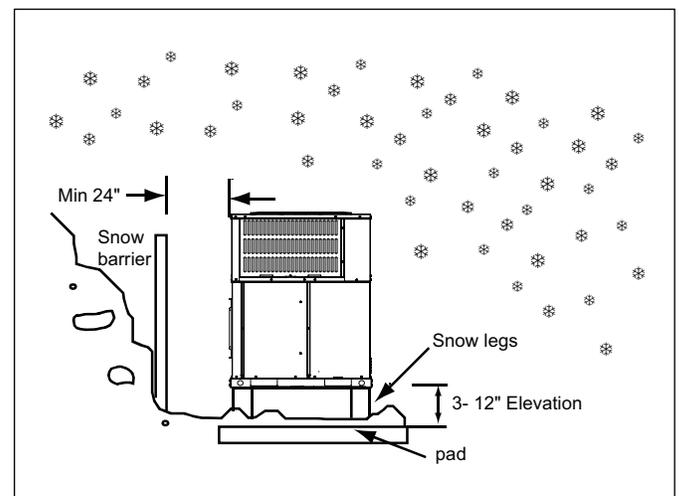

Figure 13 Insulation Layer
- Units should be elevated 3-12 inches above the pad or rooftop, depending on local weather. This additional height will allow drainage of snow and will permit condensate water to drain when the unit is in defrost mode. Ensure that drain holes in unit base pan are unobstructed, preventing drainage of defrost water (See Figure 13).